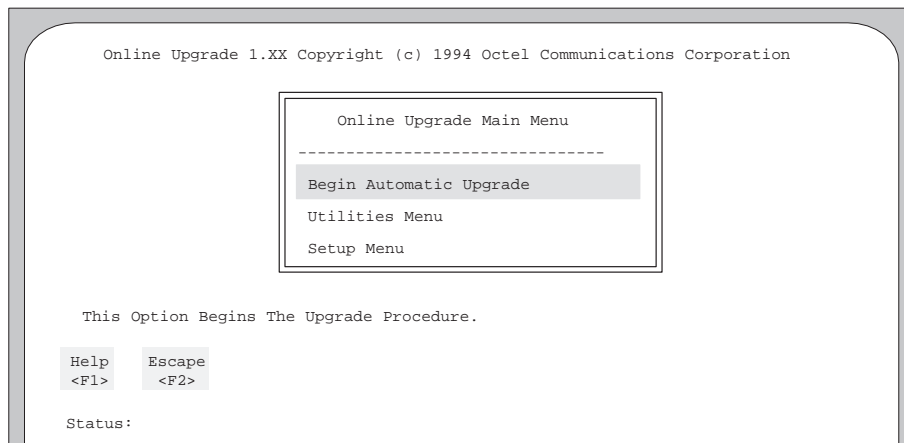

Figure 13-5. Online Upgrade Main Menu.
9. If the PC has Windows 3.x installed, at the **C:\PCUPG>** prompt, type **pcupgrd** and press **Enter** to run the upgrade procedure from the hard drive. The Online Upgrade Main Menu screen appears, as shown in Figure 13-5. Proceed to the next section of this procedure.
10. If the PC has Windows 95 installed and you are using the PC's COM 2 port, you *must* install the special utilities described in Product Alert 92. Call the Octel Customer Services Center to obtain the diskette for these utilities, and follow the installation instructions provided with the diskette. Installing these utilities establishes two new icons on the desktop. After you install the utilities, close any open applications, double-click **Pcupgrdw** (a new icon) and click **Yes** to restart the PC in MS-DOS mode and launch the online upgrade tool. The Online Upgrade Main Menu appears (Figure 13-5).
3. When all fields are correct, press **Enter**. The Online Upgrade Main Menu reappears (Figure 13-5).